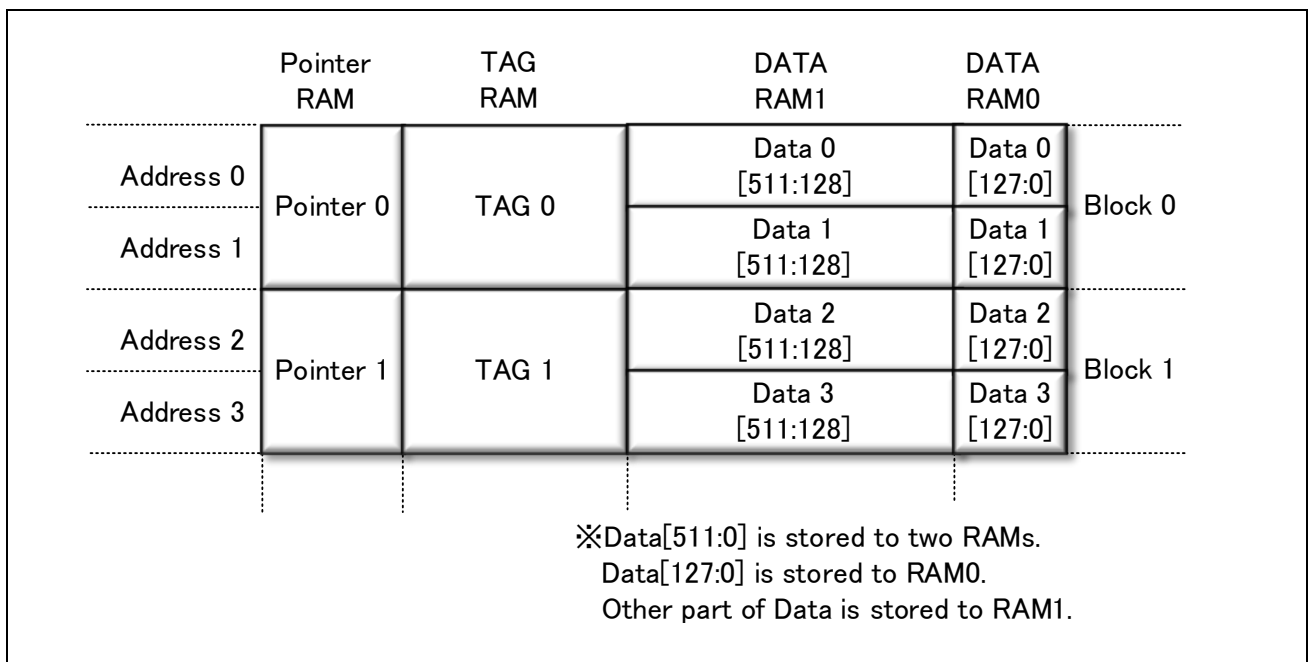

Fig. 5.1: RAM first address representation for LCL_RAM_BSZ = 128 and LCL_RAM_DW=512
When an agent access to fabric, it can decide to access to one, two or all the RAMs in one access (thanks to *_den_*, *_pen_* and *_ten_* signals). However, there is only one address per one access. The address at which RAMs will be accessed will be calculated from the address given to the Fabric. The address calculation for Data, TAG and Pointer RAMs are respectively described in equations (1), (2) and (3). Fig. 5.1 describes the first addresses mapping to RAMs for LCL_RAM_BSZ = 128.